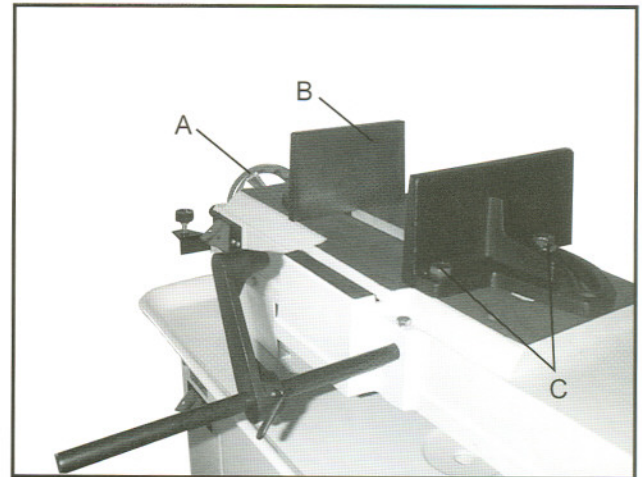

Fig. 9
1. Remove the bolt and nut assemblies (C, Fig. 9).
2. Position the vise and re-install the bolt assemblies as pictured in Fig. 9.